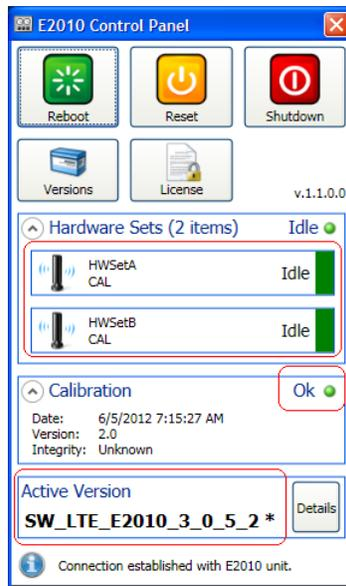

Figure 2-45: E2010 Control Panel - Hardware Sets
9. Power-down the E2010 and power it up again. When the E2010 boots, the *E2010 Control Panel* should automatically display. Verify that it matches the highlighted items in Figure 2-45. Allow a few minutes for all the components to boot up. Note that Single Cell units have only one HWSetA.